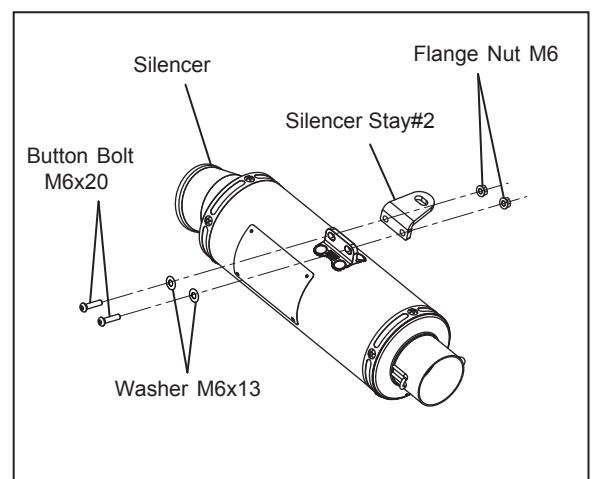

FIG. 4
- 4) Mount Silencer Bracket #2 on Silencer Assy with 2 of each Button Bolt M6x20, Washer M6x13 and Flange Nut M6 (See Fig. 4). Tighten bolts by hand only at this stage.